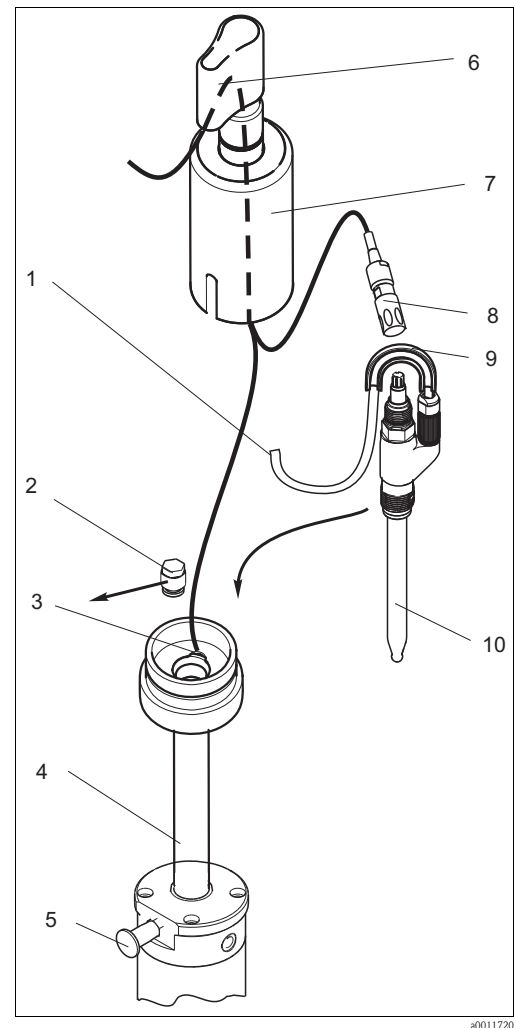

Fig. 23: Liquid KCl electrolyte sensor installation
2. Remove the splash protection cap (→ Fig. 23, pos. 6) and the KCl hood (pos. 7).